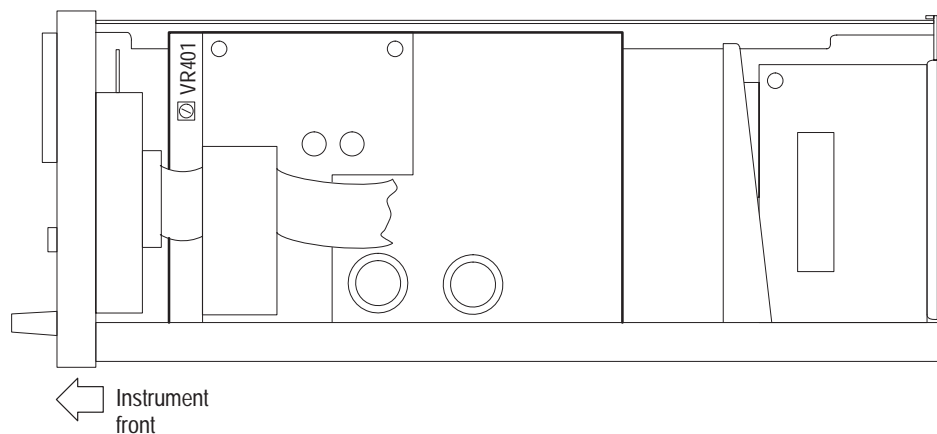

Figure 14: VR401 adjustment location
10. Adjust VR401 for a DMM reading of 6.5 V. See Figure 14 for the adjustment location.